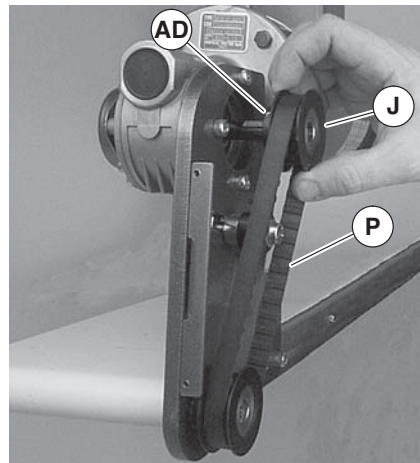

Figure 21
If drive pulley (Figure 21, item J) is replaced, wrap timing belt around drive pulley and complete step 3.
3. Loosen drive pulley set screws (Figure 21, item AD). Remove drive pulley (J) and timing belt (P).
Drive pulley (Figure 21, item J) is removed. Wrap timing belt around drive pulley and complete step 14.